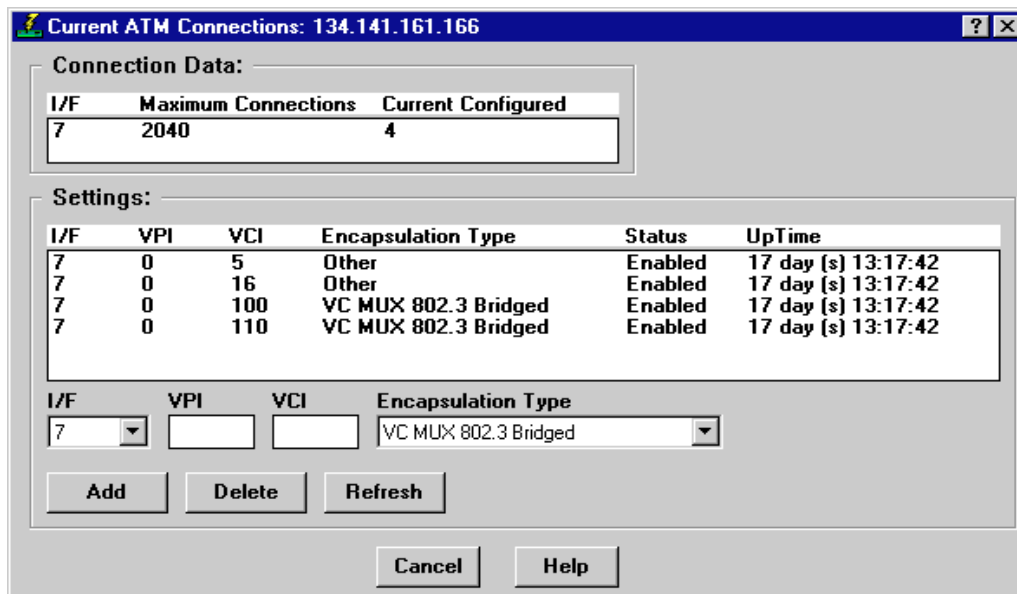

Figure 6-1. The Current ATM Connections Window
2. Select **ATM Connections**. The Current ATM Connections window, Figure 6-1, will appear.